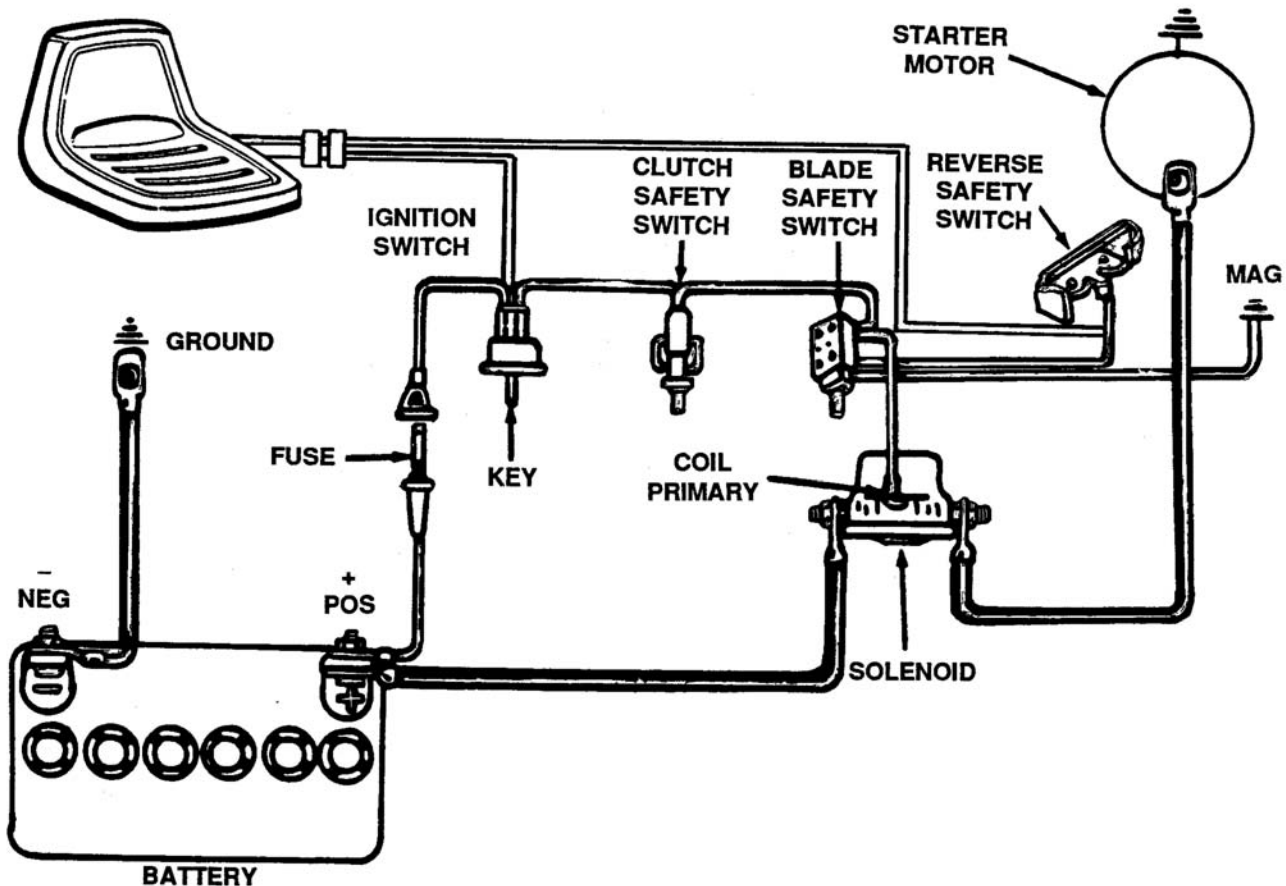

Figure 3-8. Typical Electric Start System
- 3-3.1 Before the engine will crank, the key must be turned on and both of the safety switches must be activated. One is activated when the clutch is depressed and one is activated when the blade is disengaged. When this happens the circuit will be complete between the battery and the coil primary of the solenoid. This will close the solenoid which will allow the starter motor to crank the engine. The safety switches are wired in series on the electric start models. See Figure 3-8.